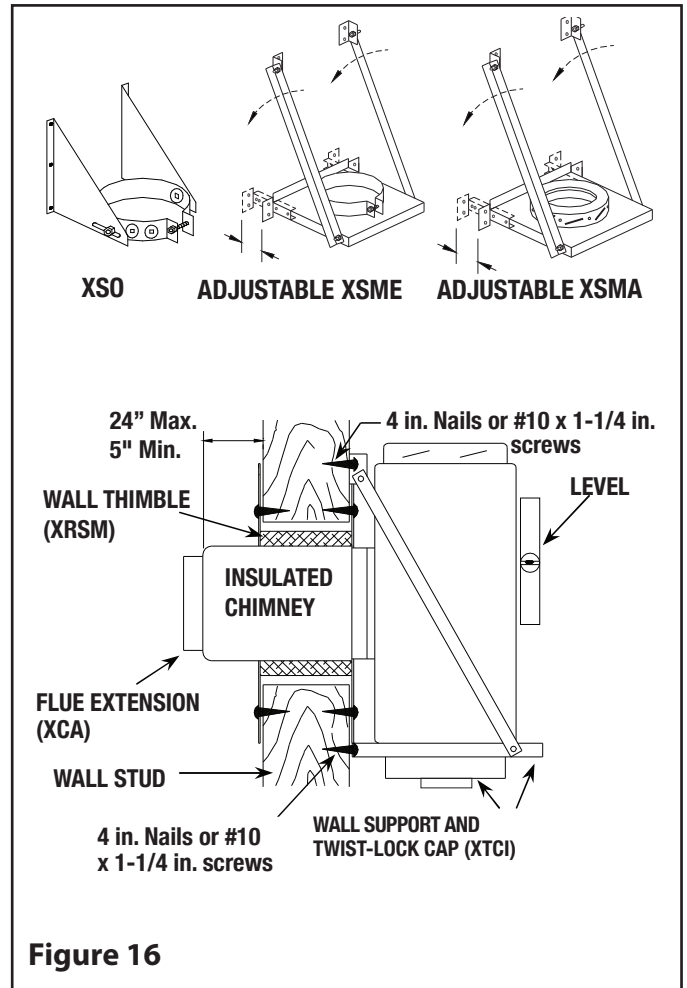

Figure 16
4. **IMPORTANT:** To ensure minimum clearances to stovepipe, the insulated pipe length (passing through the wall) must project beyond the inside wall by a minimum of 5". The maximum projection length is 24". See Figure 16.
Step 5. Attach the clean out cap to the support or directly to tee bottom depending on configuration. (see Figures 16) The cap is in the box with the insulated tee.
Step 7. This step will require 2 people: (See Figure 16).
Step 8. From inside attach the flue extension (XCA) to the horizontal chimney length (**see Figure 16**).